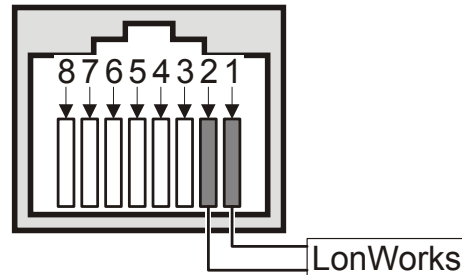

Fig. 5. LonWorks interface (RJ45 jack)
- via the corresponding jack located to the right of the terminal blocks (see Fig. 5).